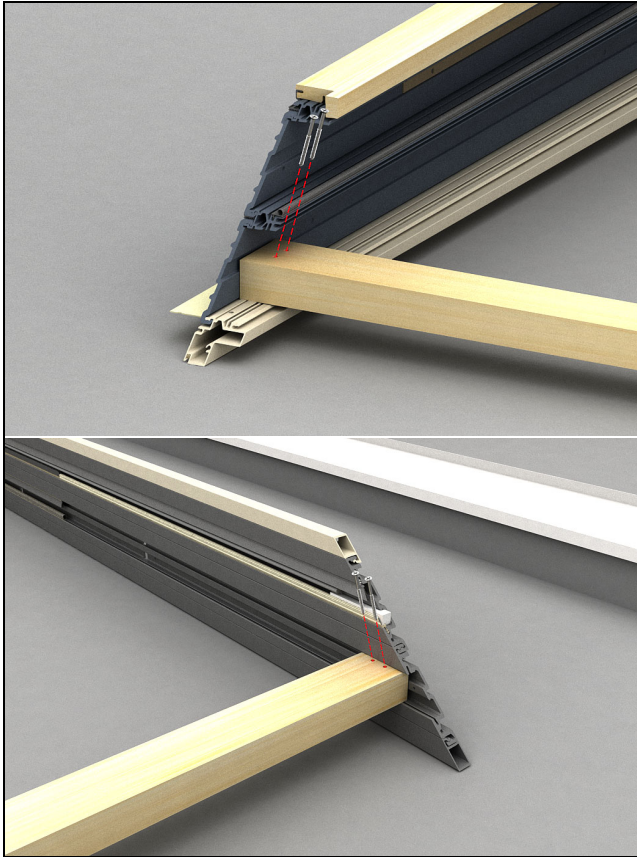

Figure 6
6. Align the story pole at the corner. Fasten the pole labeled top to head jamb and opposite end to the sill using four #7 x 2" flat head screws. The story pole is pre-drilled. See Figure 6.